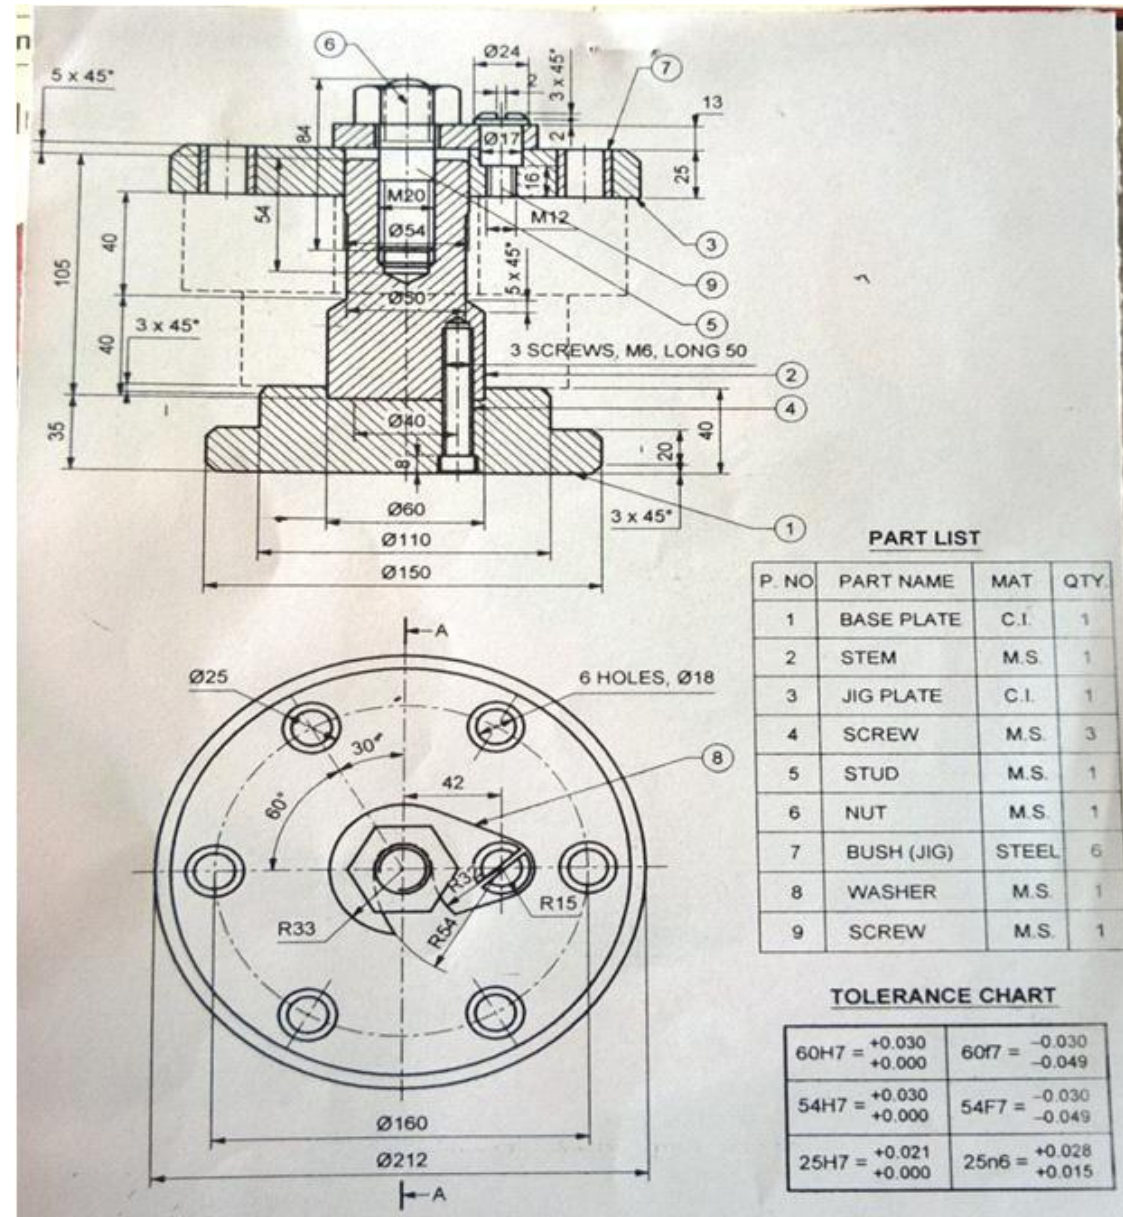

Figure 10
2. Figure 10. Shows the assembly of drilling jig. Draw the following details: